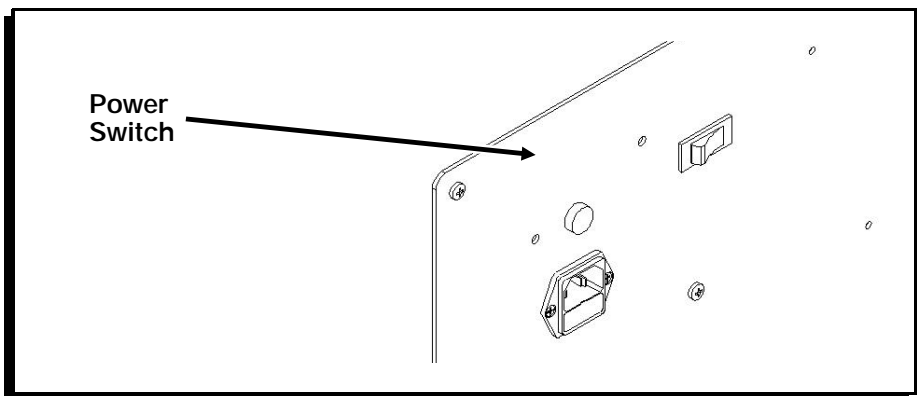

Figure 38
2. Turn on the Station's power supply and turn on the printers from which you want to print supplies. (Figure 38.)